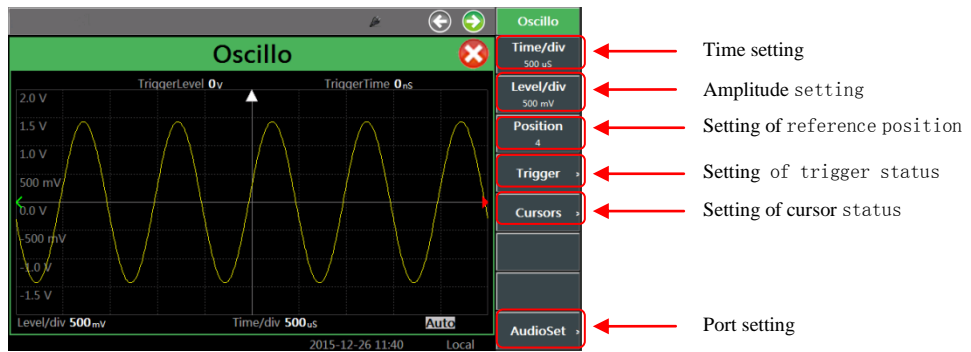
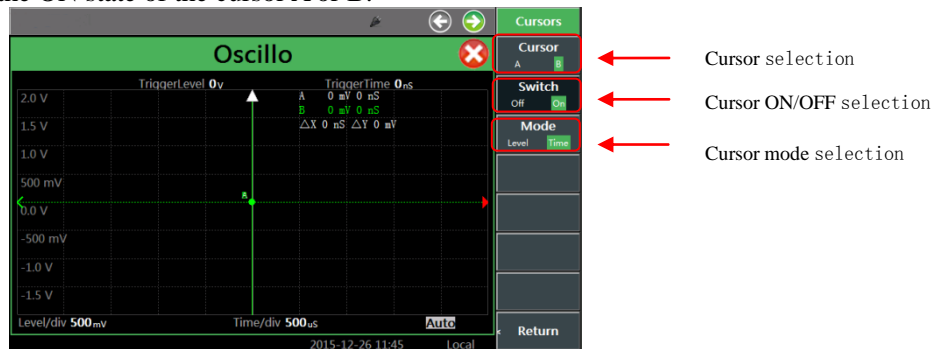

Fig. 4-34 Oscilloscope Display Window
Fig. 4-41 Oscilloscope Cursor Window
The oscilloscope function of 4992A has the function of intuitive measurement display of low-frequency signals of the external audio, DVM or interval receiver signal after demodulation. This is designed for the external audio/DVM interface. The user should estimate the level range of the input signal, and select the appropriate range. The operation interface is shown in Fig. 4-34.
- In the operation interface shown in Fig. 4-34, click the [Trigger] soft key in the right men of the touch screen for port setting. The window shown in Fig. 4-39 will pop up.
- In the operation interface shown in Fig. 4-34, click [Time/Interval], [Amplitude/Interval], [Reference Position] and other soft keys in the right menu of the touch screen for port setting, and set the appropriate time, amplitude, reference position, etc.
- To mark the measurement result, click the [Cursor] soft key in the right men of the touch screen in the operation interface shown in Fig. 4-34. The window shown in Fig. 4-41 will pop up. First set the mode and select the cursor amplitude or time. Then select the cursor A or B, and enable the ON state of the cursor A or B.